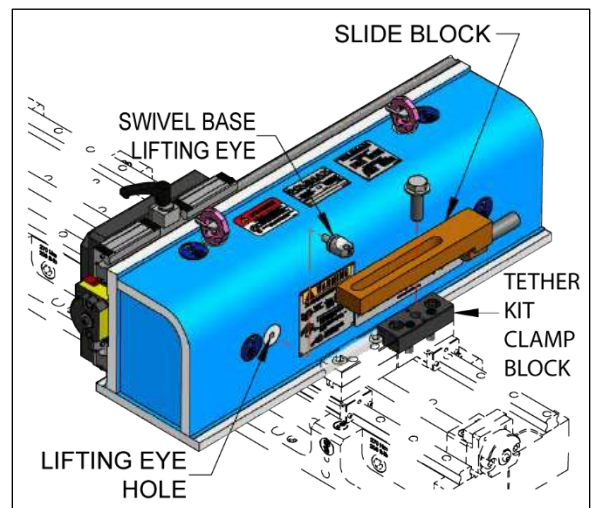

Figure 15. Slide block and swivel base lifting eye installation
- Install the slide block assembly on the tether kit clamp block with the supplied M16 hex head screw and washer so that the setscrew will point up when the ram of the linear mill is oriented vertically (Figure 15). Leave the M16 hex head screw loose in the clamp block hole.
- Install the swivel base lifting eye in the threaded hole on the side of the ram that will be below the elevation of the tether kit clamp block when the ram of the machine is oriented vertically (Figure 15). Use Table 4 for the torque settings of the swivel base lifting eye for each model.